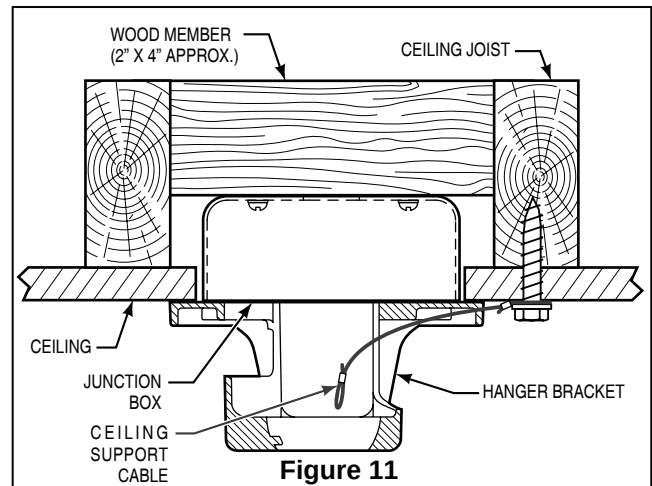

Figure 11
- ☐ 1. Securely attach the hanger bracket to the outlet box using the outlet box screws and washers supplied with the outlet box. (Figure 11)
- ☐ 2. Drill a $\frac{1}{4}$ " pilot hole into the building structure to prevent splitting or cracking with installation of the lag bolt. Using the $\frac{3}{8}$ " x 2" lag bolt and flat washer, attach safety cable to ceiling joist or wood structural member. The lag bolt will pass through the flat washer, safety cable loop, and into the building structure. (Figure 11)
NOTE: Ceiling support cable cannot be secured to junction box only, it must be directly secured to ceiling joist or structural member using the $\frac{3}{8}$ " x 2" lag bolt and flat washer. (Figure 11)